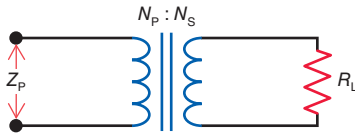

Figure 18-35
- 18.26** In Fig. 18-35, calculate the required turns ratio $\frac{N_p}{N_s}$ for